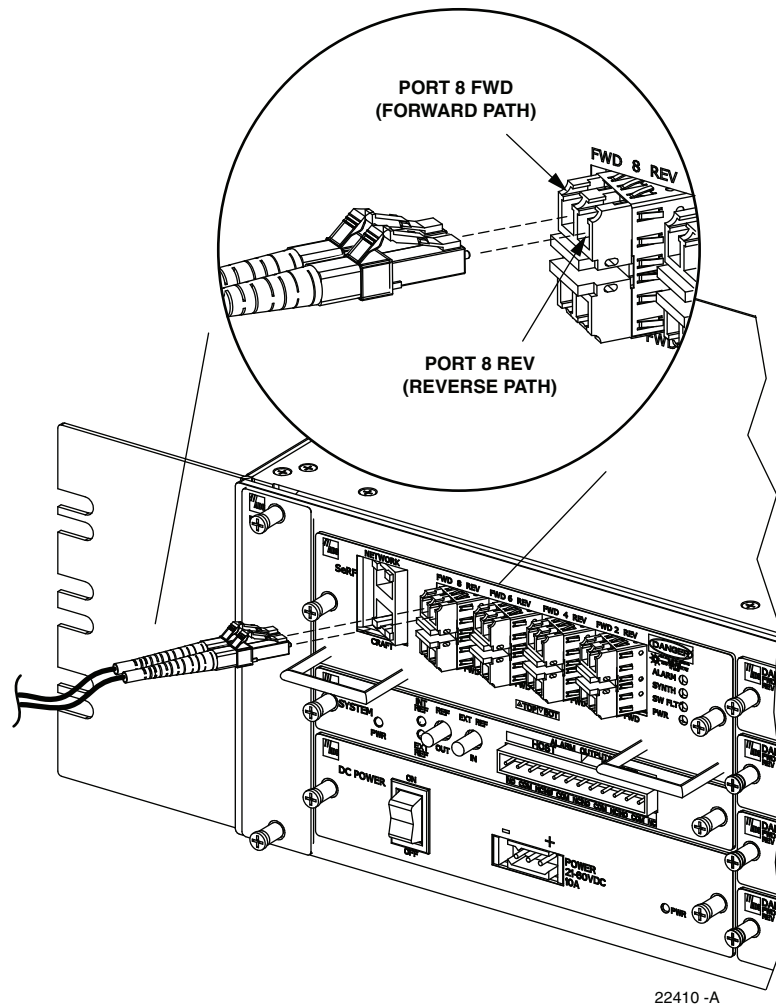

Figure 13. Fiber Optic Cable Connections To Host Unit
5. Insert each patch cord connector into the appropriate optical port as shown in Figure 13 and as specified by the following:
13. Clean each pigtail connector (follow the procedures provided with the WDM module) and then insert the connector into the appropriate optical port on the HU as shown in Figure 13 and as diagramed in Figure 14.